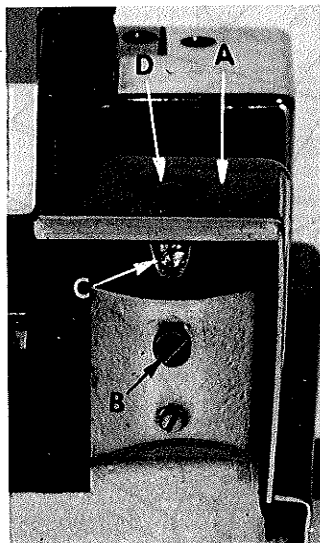

Fig. 17
CAUTION: When removing the cloth plate (A, Fig. 17) loosen the cloth plate stud locking screw (B) and lift up cloth plate with the cloth plate stud (C) and cloth plate screw (D), assembled.